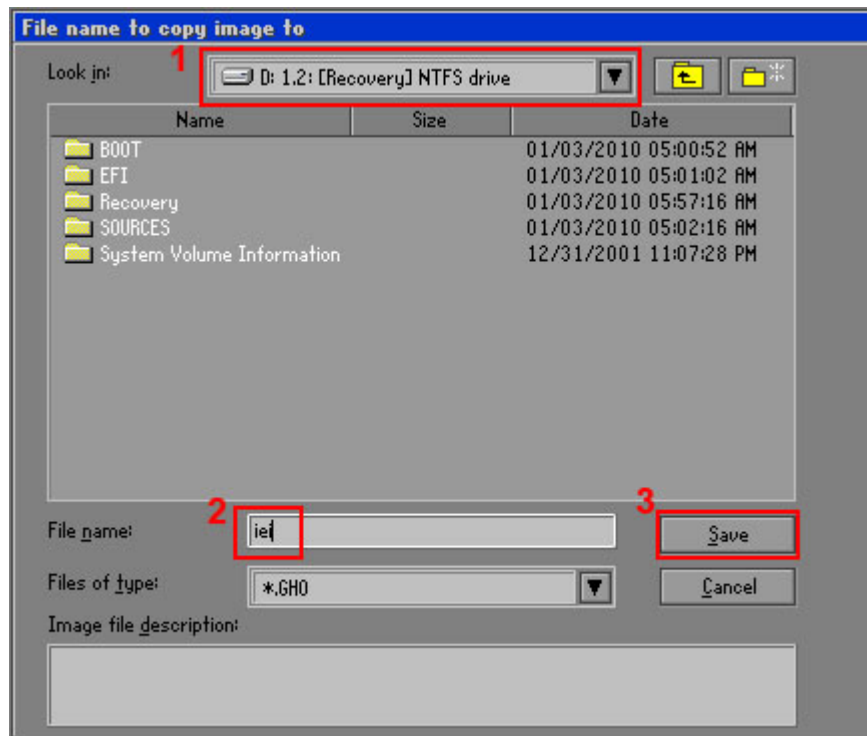

Figure C-16: File Name to Copy Image to
Step 7: Select **1.2: [Recovery] NTFS drive** and enter a file name called **iei** (Figure C-16). Click **Save**. The factory default image will then be saved in the selected recovery drive and named **IEI.GHO**.